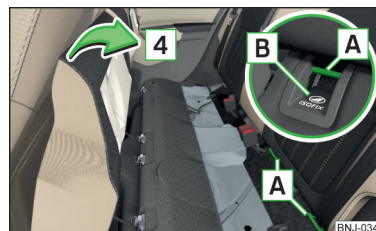

Fig. 73 Fold the rear seat back
- To **open**, lift the armrest in the direction of arrow **4** » Fig. 73.